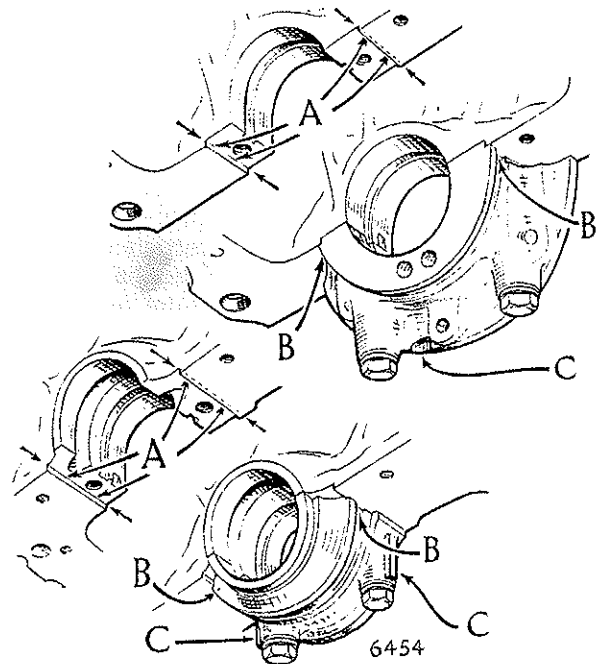

Fig. B.8. Places at which to use jointing compound on main bearing caps
- (d) Before replacing the front and rear main bearings a very small quantity of Wellseal (or other non-setting jointing compound) should be painted on to the sides of the cylinder block recess into which the bearing caps locate. See Fig. B.8.
5. When the crankshaft is securely retained in position, fill the spaces indicated by the arrows "B" in Fig. B.8 with a quick setting compound and allow to dry. The use of this compound is to fill up possible oil leakage passages to the top ends of the cork strips used on both front and rear main bearing caps.